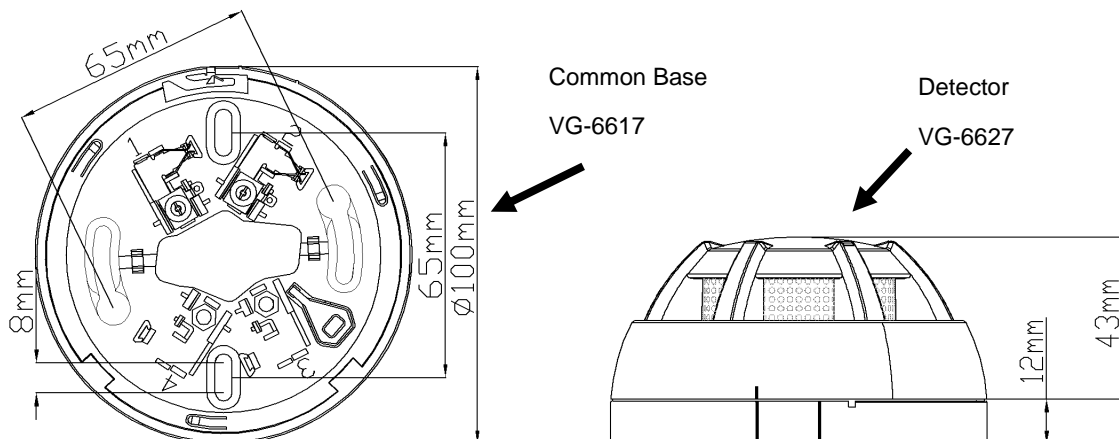

Fig.1 Dimensions
- ✧ **Dimensions: Showing on Fig.1**